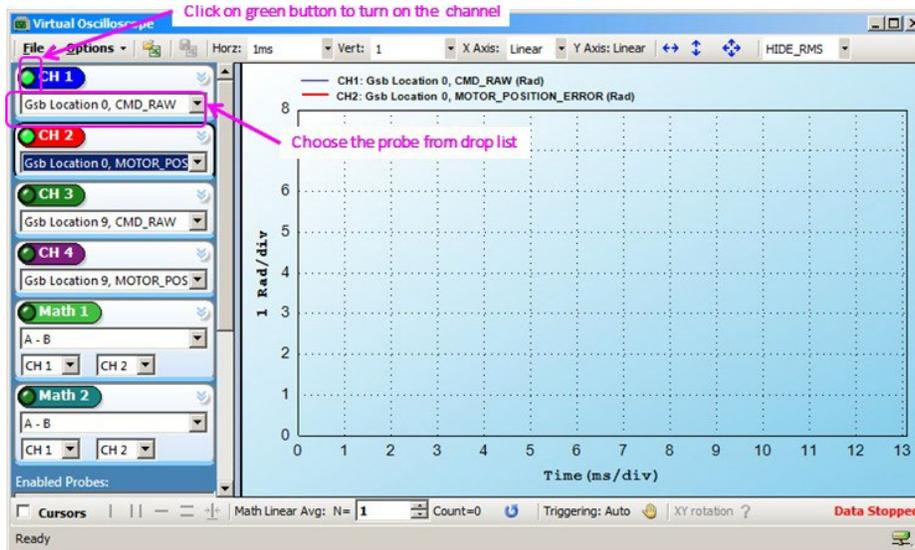

Figure 7 - Turn on Channels and Select Signals to Display
1. In the V-Scope window, turn on the scope channels by clicking on the circle before the channel name. In this example (shown in Figure 7), CH1 (channel 1) and CH2 (channel 2) are turned on.
2. Select a probed signal to display in each channel. In this example (shown in Figure 7), Gsb Location 0 (x-axis) CMD\_RAW is selected to display in CH1 and Gsb Location0 (x-axis) MOTOR\_POSITION\_ERROR is selected to display in CH2.